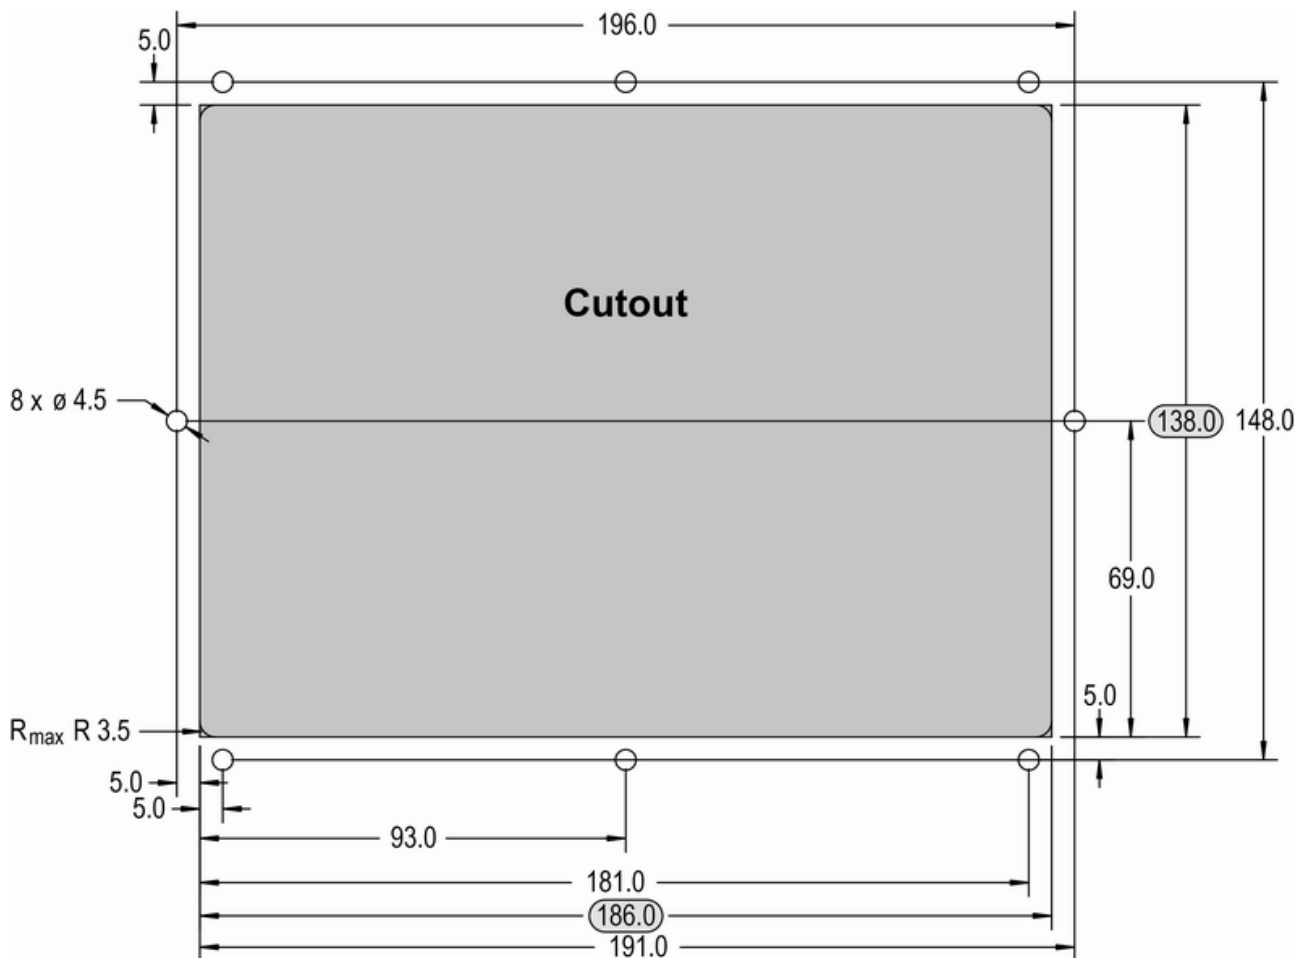

Fig. 18: Plastic housing - drill plan
The housing is equipped with 8 nut inserts (Fig. 18), which must all be tightened properly to achieve the required degree of protection.
1. ➤ Cut out the panel and drill the holes according to the dimensions in Fig. 18 (dimensions shown in mm).